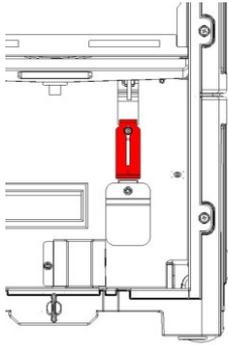

Fig. 6: Cover plate with water collecting tank
2. Remove the water collecting tank.. The cover plate behind it is not in front of the recess (fig. 6).